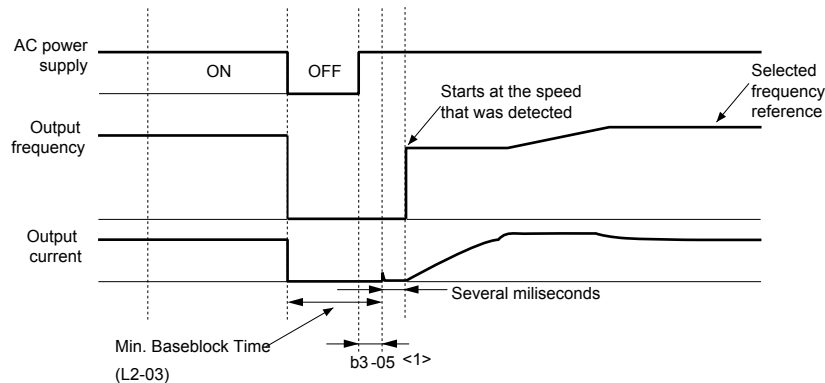

Figure 5.11 Speed Search after Baseblock
**Note:** If the Run command is quickly switched off and then back on again when the drive is set to “Coast to stop” as the stopping method, Speed Search will operate as shown in Figure 5.11.